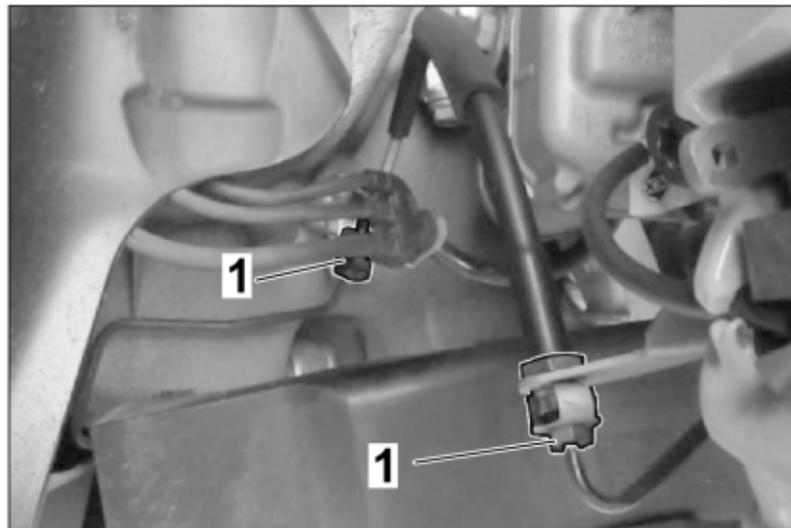

Figure 21
1. – Loosen the screw connection of the brake line ⇒ *Figure 21 -1-* and remove the brake line.